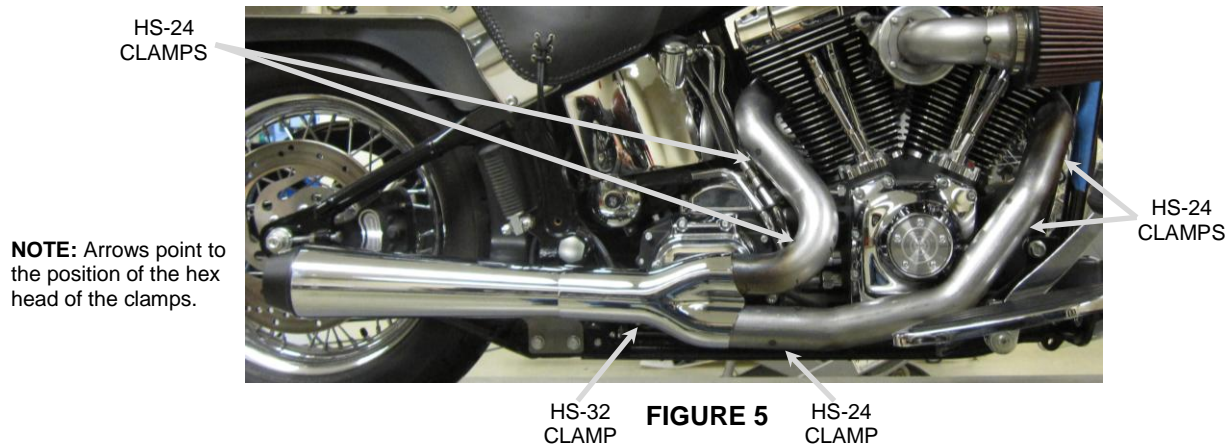

FIGURE 5
21. Unscrew the small **HS-24** clamps and feed the tail end of the clamp through the clips on the inside of the heatshields. See **FIGURE 5** for proper positioning of the clamps on the heatshields. (NOTE: The arrows point to the positioning of the hex head of the clamps. The hex head of the clamps should be accessible for tightening but not visible when the heatshields are mounted to the pipes.)
22. Install the rear heatshield over the rear headpipe. (Hint: Spread the hose clamps apart slightly to make it easier to slide them over the headpipes.) Snug the clamps but **DO NOT TIGHTEN** at this time. See **FIGURE 5**.
23. Install the front heatshield over the front headpipe. (Hint: Spread the hose clamps apart slightly to make it easier to slide them over the headpipes. When the heatshield is aligned properly snug the clamps but **DO NOT TIGHTEN** at this time. See **FIGURE 5**).
25. Unscrew the larger **HS-32** clamp and insert the tail end through the clip on the inside of the collector heatshield. See **FIGURE 5** for proper positioning of the clamps on the heatshields. (NOTE: The arrows point to the positioning of the hex head of the clamps.)
26. Install the collector heatshield over the collector area by first inserting the rear portion over the front of the muffler inlet and then carefully sliding it backward over the muffler body. See **FIGURE 5**. The front of the collector heatshield will go over the rear portion of the headpipe heatshields.